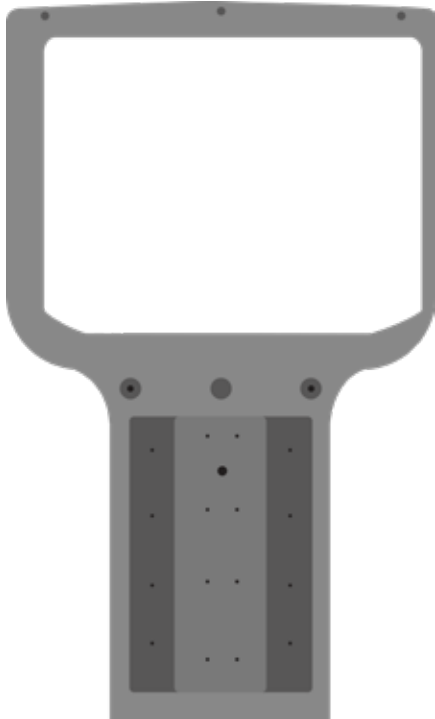

Figure 12. Center Plastic (#3 in Figure 8)
12. Install (3) of the #8 -11 x 1 ¼" and (3) of the #8 Flat Washers from (Bag D & I) across the top gray on the back of the Auto Sentry Petro. See Figure 12.